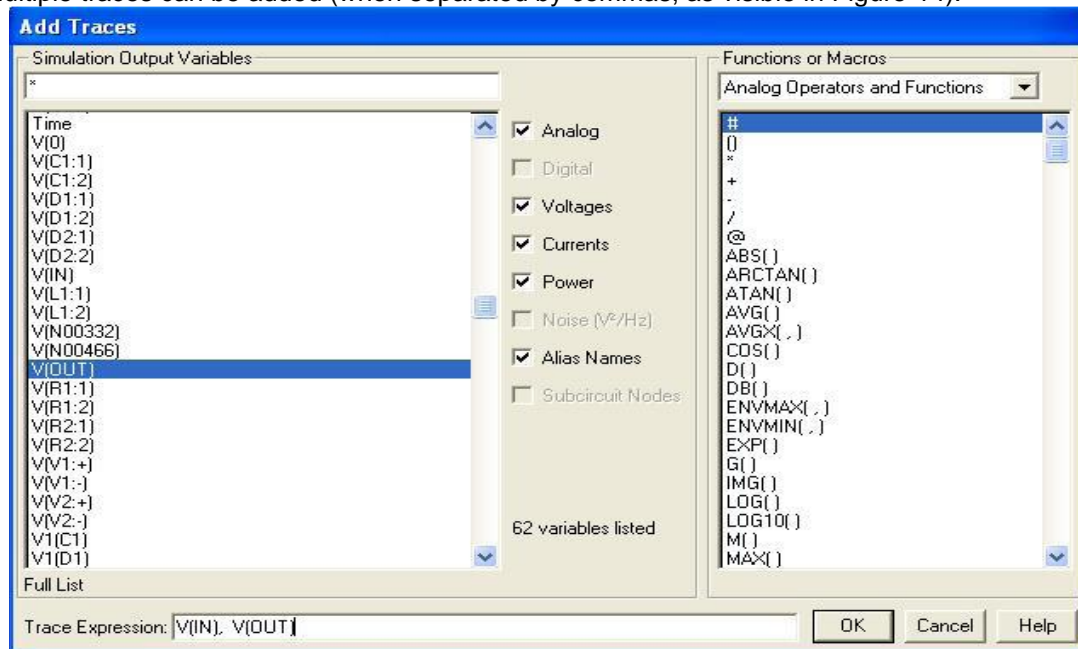

Figure 14 - Add Trace Dialog
d) Click on the “Add Trace” button in PSpice A/D window. Once the Add Trace dialog is open, find V(IN) and V(OUT). Multiple traces can be added (when separated by commas, as visible in Figure 14).